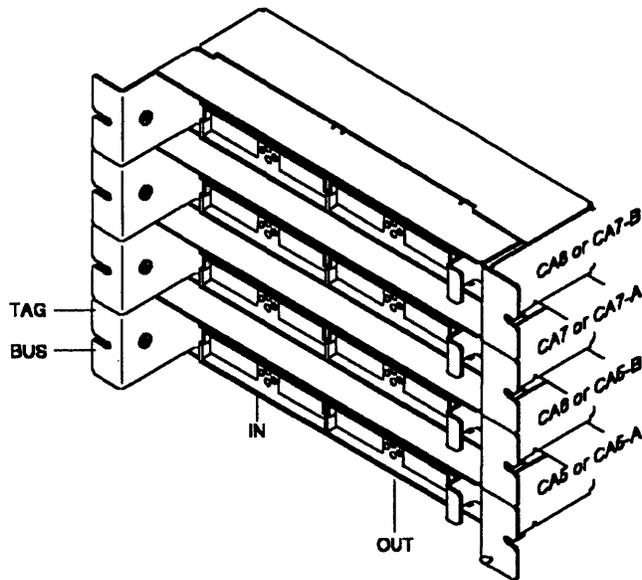

Figure 3-4. Channel Distribution on Tailgate. (Interfaces A and B are used when the TPS feature is present.)
Note: *Up to four CAs are available. They are numbered from 5 to 8 (CAs 1-4 are not used, see Figure 3-4 on page 3-10 for CA numbering on the tailgate).*
- b. Make sure that a BUS terminator (P/N 2282675) and a TAG terminator (P/N 2282676) are installed on the BUS OUT and TAG OUT connectors (light gray) of the first channel interface to be tested (see Figure 3-4 on page 3-10).
- d. When asked by the diagnostic, **install** the BUS and TAG wrap tools in the IN row (dark gray) of the CA interface being tested (see Figure 3-4 on page 3-10). Then type **R** and press **SEND**.
- a. **Connect the CA interface cables** for channels 5 through 8 to the 3745 tailgate in 01P (for channel positions, refer to Figure 3-4).